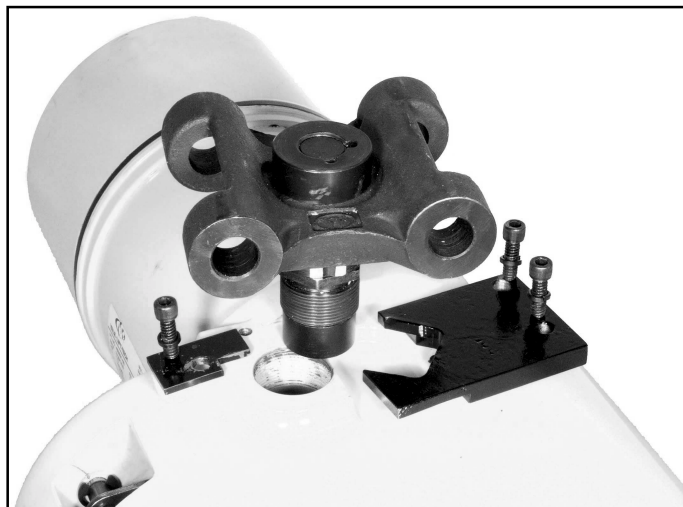

Figure 7-20. Removing Suspension Lug (1/4 through 1 Ton Models)
(1) On 1/4 through 1 ton models, remove two screws securing anti-rotation bracket and remove bracket. Remove screw securing suspension bushing keeper, and remove keeper. Remove suspension lug using an extra thin 1-1/4" open end wrench to unscrew suspension bushing from frame. (See fig. 7-20).
(2) On 2 ton models, remove three hex socket head screws securing the two lock plates to block at top of frame and pull out locks. Remove suspension lug, using an extra thin 1-1/4" open end wrench to unscrew suspension bushing from block. Instructions for removing block from frame are given in paragraph b. (2).
(3) On 3 ton models lug bolt is removed in same manner as hook. See paragraph 7-3. b. (3).